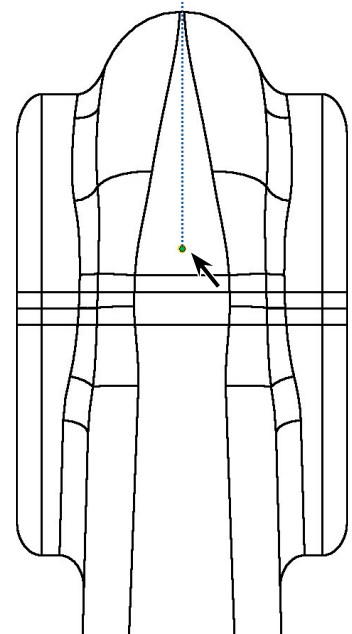

Fig. 40
Step 6. Click to place the hole approximately in the center of the body just above the axle hole, **Fig. 40**.
Step 8. Grab the point in the drawing and drag to activate the inferencing line, the dotted line that appears. Move the point to the inferencing line to align point with the center of the body, **Fig. 40**. Click OK  in the Point Property Manager.